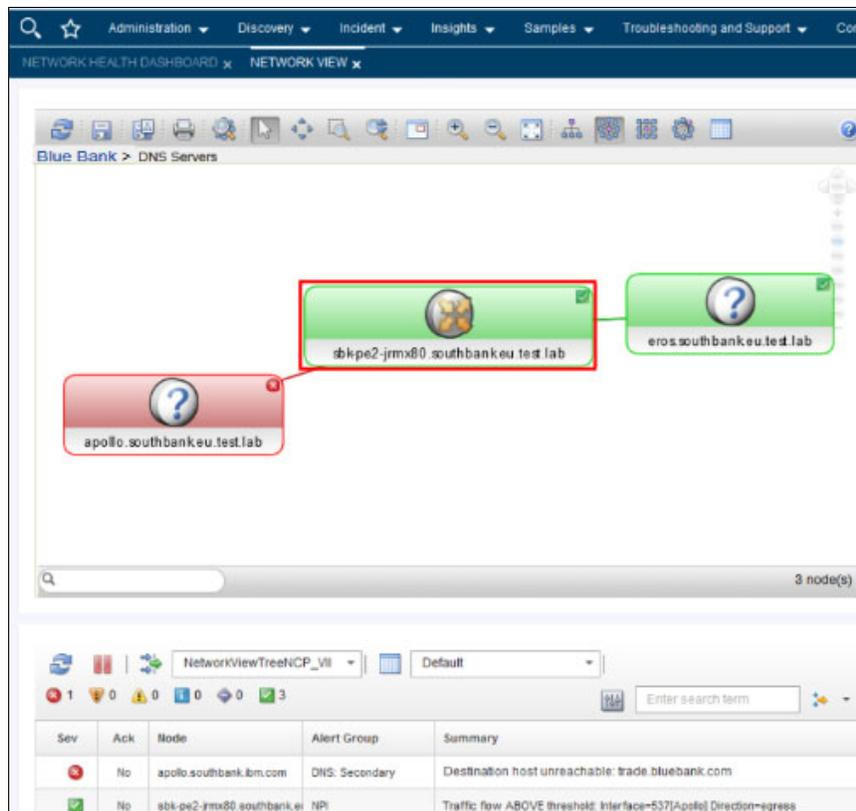

Figure 2-32 Reviewing the switch statistics of the Secondary DNS server port
- Brock reviews the network switch that is connected to the Secondary DNS server in the Network View to investigate the connectivity statistics of that server (see Figure 2-32).